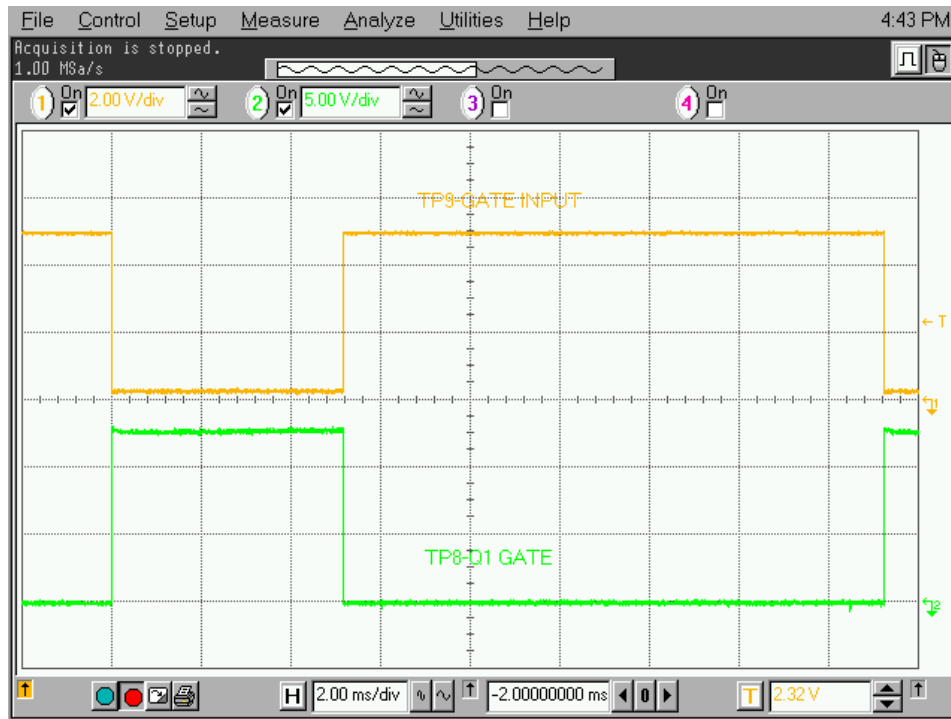

Figure 4.38 – Gating pulses
18. Verify that the signals at TP9 and TP8 are as shown in Fig. 4.38.